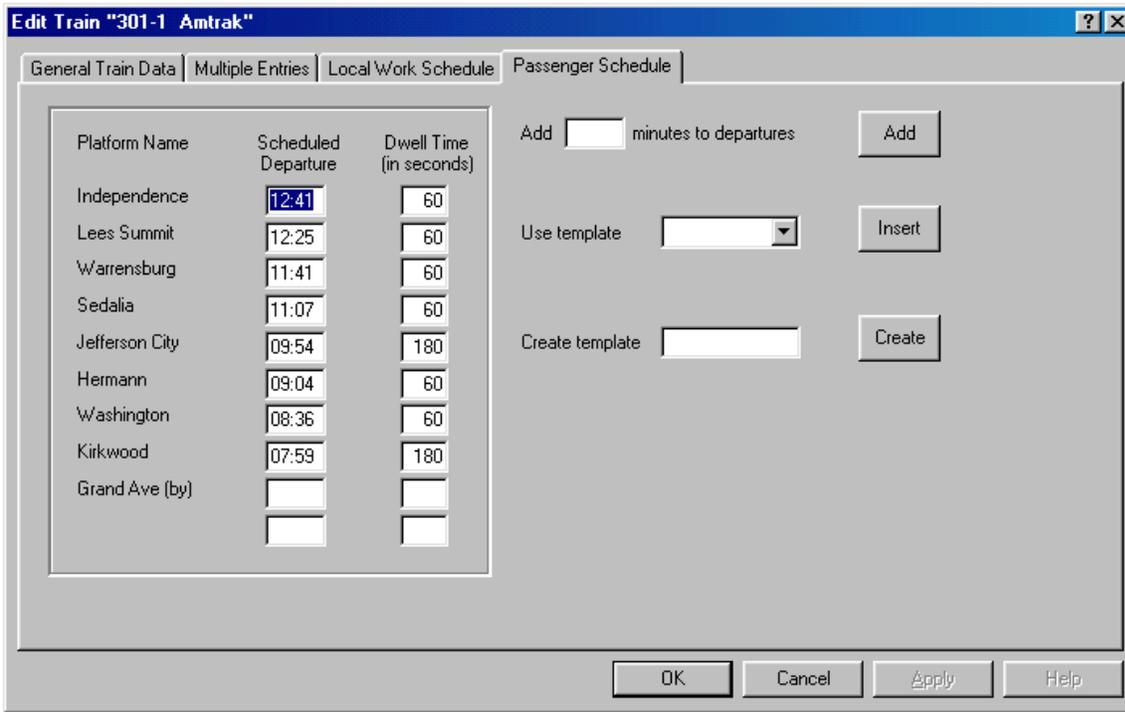

Figure 46 - Train Data - Passenger Schedule Dialog
This function allows a user to define a train's departure time for each platform defined in the territory (see Paragraph 8.8). To enter this information the user clicks the "Passenger Schedule" tab in one of the "Train Data" dialogs, and the Train Data - Passenger Schedule dialog will appear (see Figure 46).
- ◆ **Dwell Time** - contains the amount of time in seconds the train will stay at the station to load and unload passengers. The first train in Figure 46 will depart, for example, 60 seconds after it arrived if it is behind schedule. If it is running ahead of schedule, it will depart at the scheduled departure time.